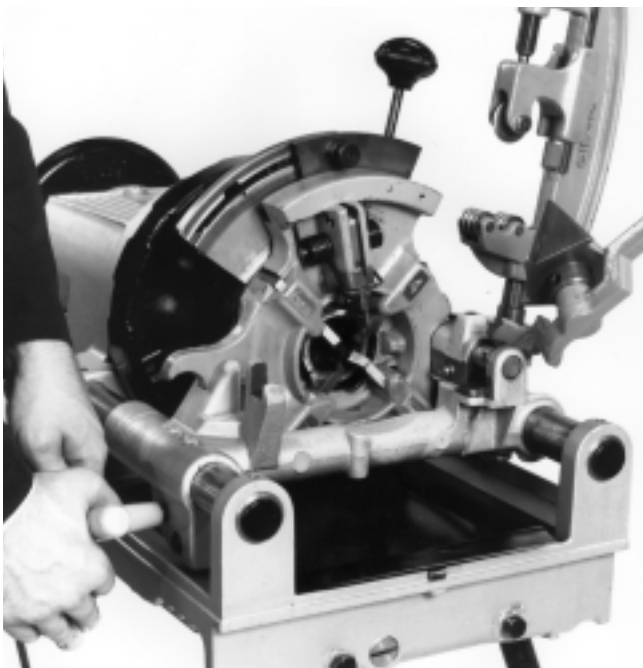

Figure 9 – Starting Thread with Receding Die Head
5. Feed carriage towards chuck to bring die head against end of pipe in one continuous motion. Continue to apply pressure to handwheel to start dies. (Figure 9)